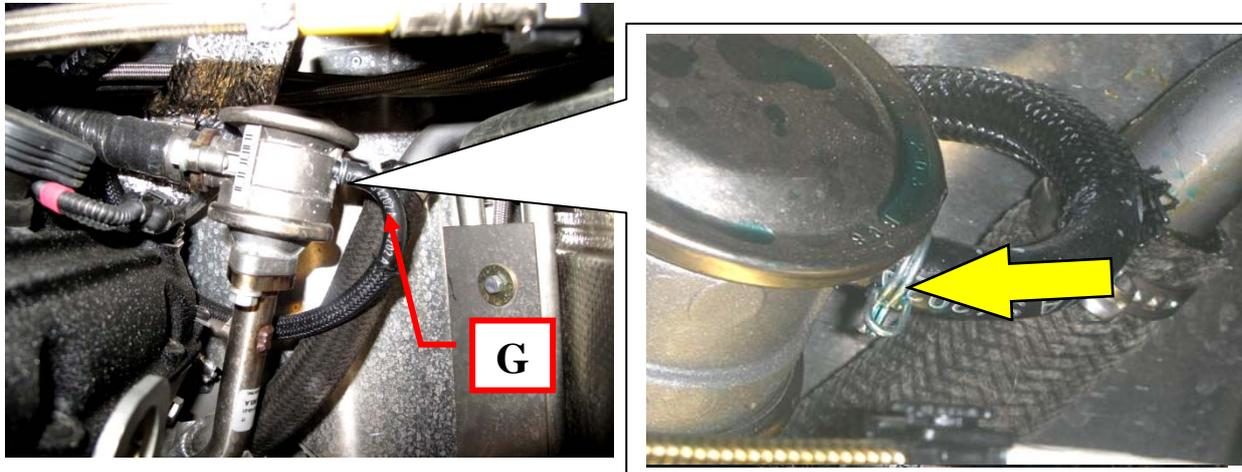

Fig. 6
- Open the spring clamp (yellow arrow - Fig. 6).
- Disconnect the EGR valve vacuum line (G - Fig. 6) from the pneumatic valve in the secondary air circuit.